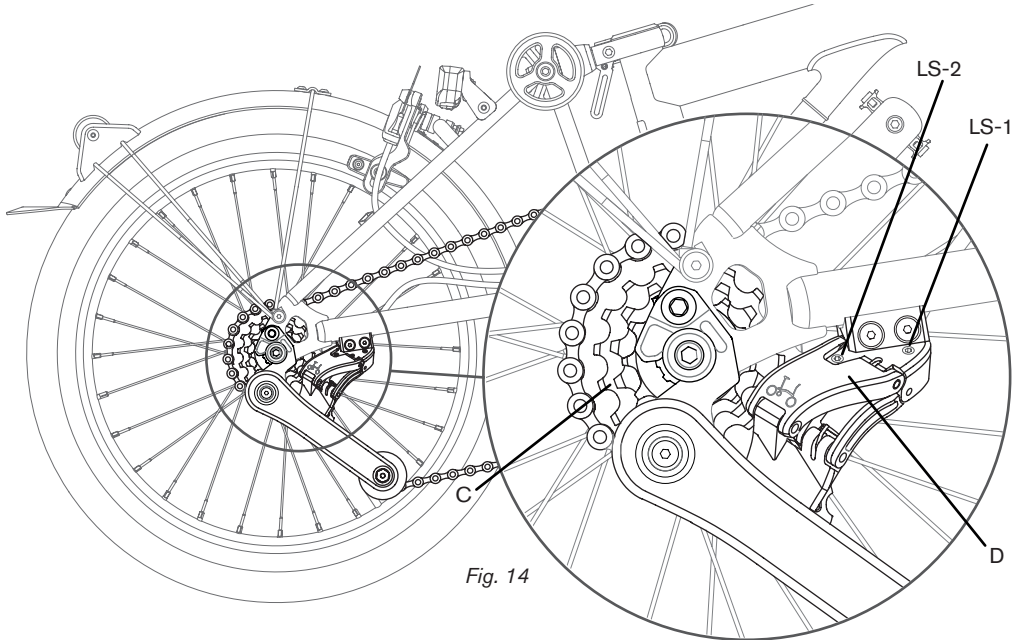

Fig. 14
LS-1 is used to create alignment on the largest sprocket on the cassette. **LS-2** for the smallest (fig. 14).
Move the saddle rails in the clamp so that they are roughly centred (half way between maximum fore and aft position). Adjust the saddle into a level position, so that the top surface of the saddle is roughly level between the front and rear edge (fig. 14). Once the saddle is in a neutral position, tighten the Pentaclip bolt to 15Nm. Test the saddle position, you can adjust it to make it more comfortable.
- Check the saddle height is correct at full extension, small adjustments can be made by moving the Pentaplug position up or down slightly on the post (fig. 14), for more information see <https://www.brompton.com>